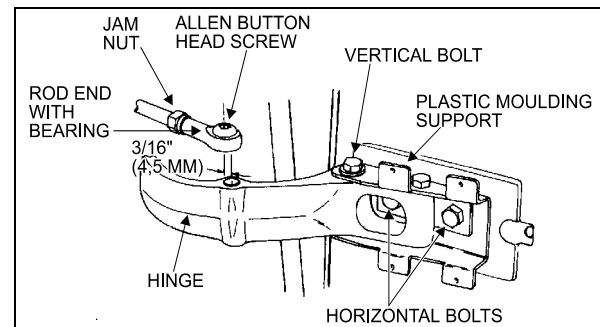

FIGURE 21: UPPER DOOR HINGE
- Remove the Allen button head screw and the washer retaining the rod end with bearing to the upper hinge. See figure 21.